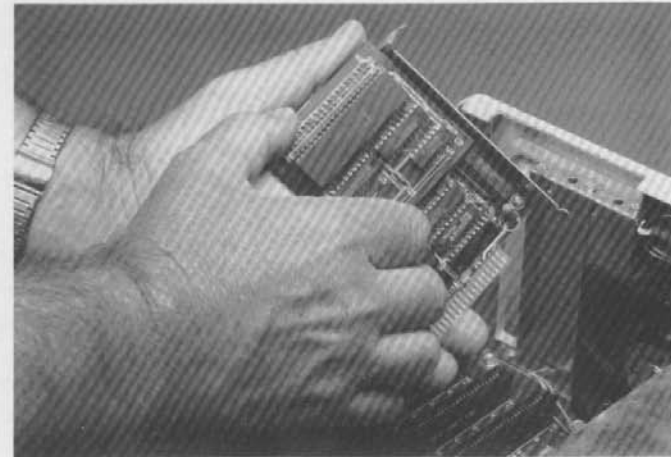

Figure 11. Plugging in Daughterboard
10. Plug the daughterboard into the 286 Express Card as shown in Figure 11.